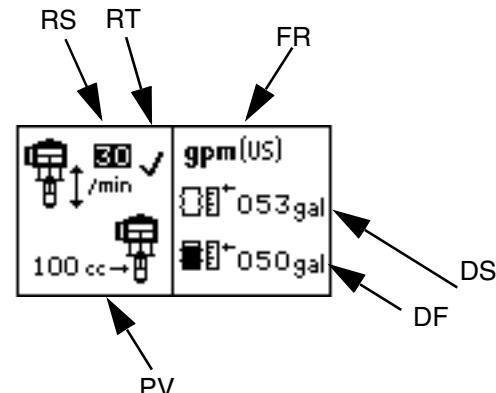

FIG. 22: Setup Screen 1
Use Setup screen 1 to set runaway cycle rate (RS), enable/disable runaway protection (RT), select pump volume per cycle (PV), select flow rate units (FR), enter drum size (DS), and enter drum fill volume (DF). See FIG. 22.
When runaway protection is enabled (RT), a  will appear on the setup screen. See FIG. 22.
To disable runaway monitoring, go to setup mode and set runaway value to 0 (zero) or toggle (RT) off. See FIG. 22.